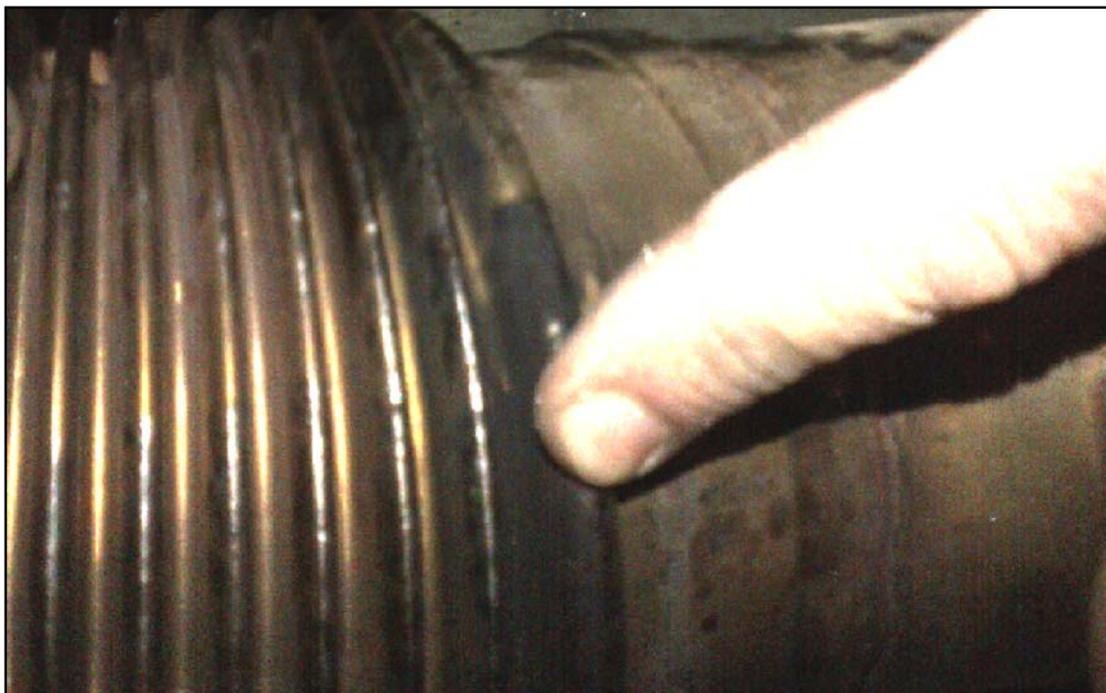

Figure 3.
2. the bellows pipe has a crack or evidence of breakage (refer to Figure 3); or